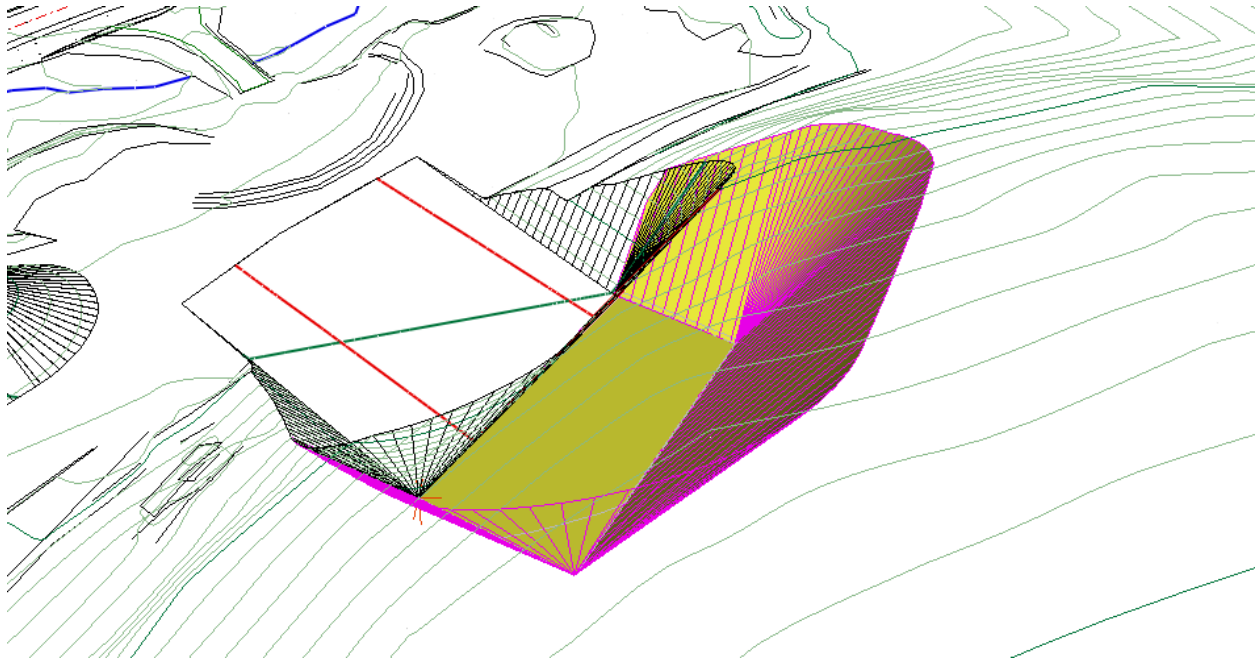

Figure 10 – Image of Excavation with Original Surface Quarry Surface in Background
16. Now you can see you image of the original surface with the excavation behind it. Refer to figure 10.